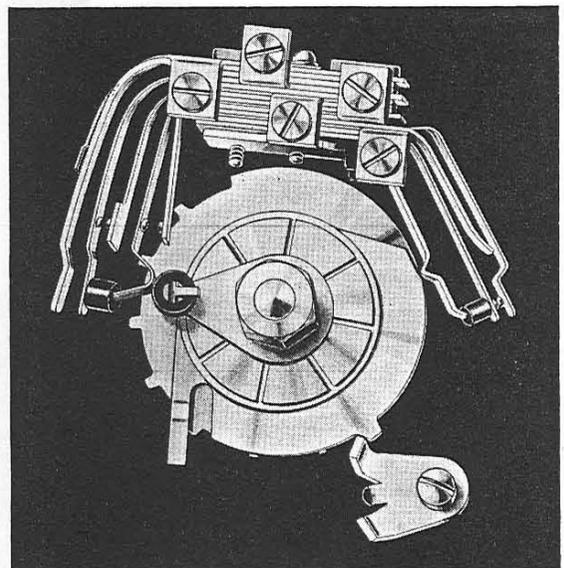

FIG. 4.—SLIPPING-CAM TYPE DIAL—MECHANISM NORMAL
5. Operation of the slipping-cam mechanism. The pulse wheel is keyed to the main spindle and the slipping cam is frictionally coupled to the wheel by steel washers under the pressure of the phosphor-bronze spring washer. Movement of the cam is restricted by its two lugs engaging a forked stop mounted on the dial case. The mechanism in its normal position is shown in Fig. 4.